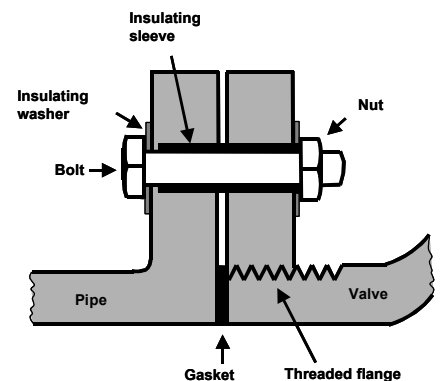

Figure 6: Correct isolation for preventing galvanic corrosion
- Isolate where possible: break the circuit between the two metals as shown in figure 6.